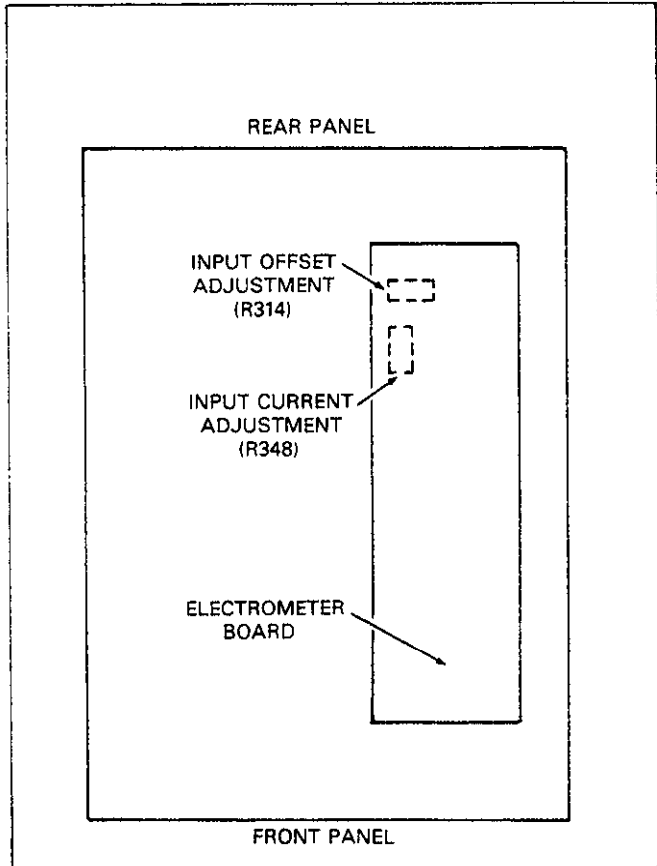

Figure 7-3. Input Offset Adjustment Locations
5. Locate the offset adjustment potentiometer (R314) on the electrometer board (see Figure 7-3). The pot is accessible through a small hole in the shield closest to the rear of the instrument.
7. Locate the input current potentiometer R348 on the electrometer board. It is accessible through a small hole in the shield. See Figure 7-3.